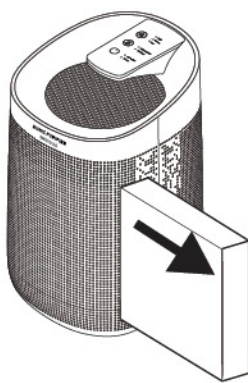

fig. 2
2. Carefully pull out the filter (fig. 2).